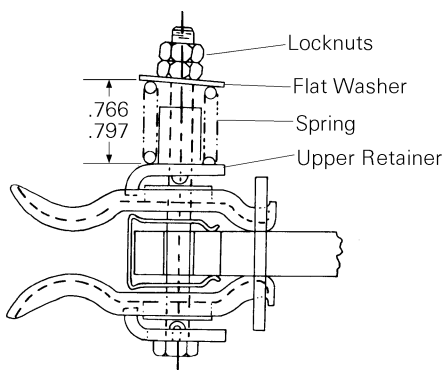

Figure 29. Primary disconnect adjustment on EGX08, EGS16, EGF16, EGH16, EGS20, and EGF20 breakers.
7. The primary disconnect assembly on new breakers is adjusted in the factory for a force of 85–105 pounds on a 1/2-inch-thick copper bar between the fingers. This force range can be obtained after installation of a new primary disconnect assembly by adjusting the finger spacing as shown in Figure 29. Loosen the lock nuts to obtain a spacing of 0.766–0.797 inch between the top of the upper retainer and the bottom of the flat washer. Tighten the lock nuts.